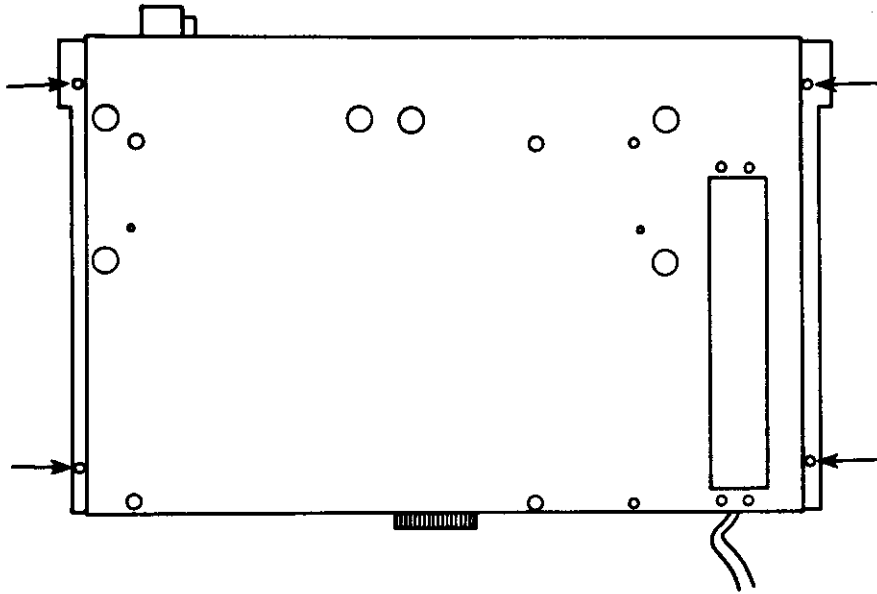

Figure 2-4: Cover Removal - Revision A Chassis
1. Remove the four screws on the bottom that hold the cover to the chassis (see Figure 2-4).